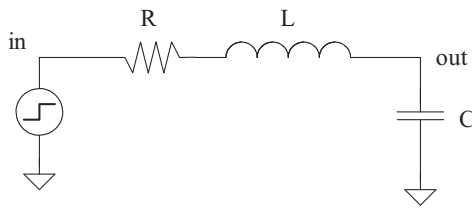

Figure 19.76 Using a second-order circuit to demonstrate how lock time and natural frequency are related.
- 19.12** Using the step response of an RLC circuit, Fig. 19.76, demonstrate how selection of the resistor, inductor, and capacitor affect the output voltage's damping factor and natural frequency. From this plot show how natural frequency and lock time are related.